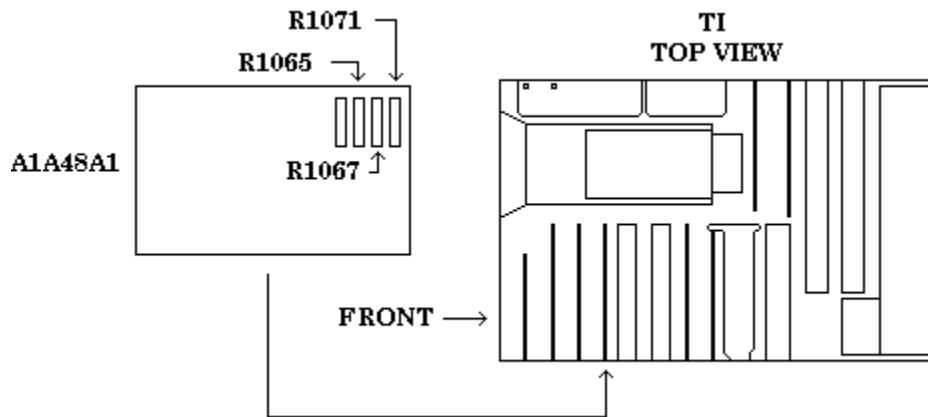
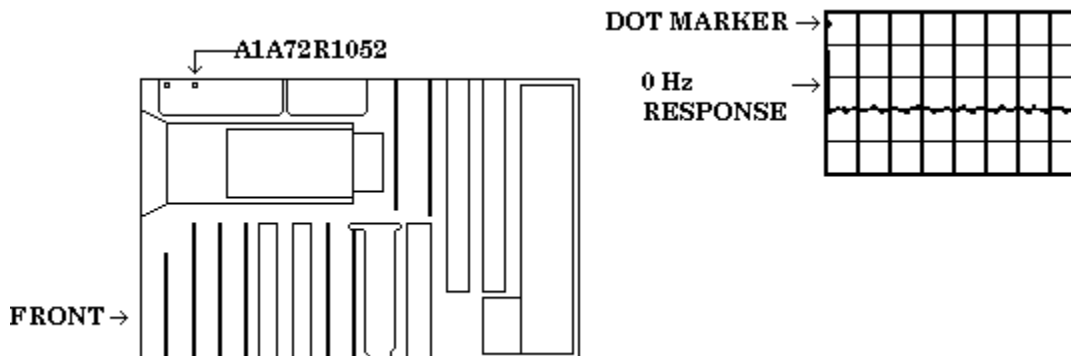

Figure 3. Span/div adjustment.
Figure 4. 0 Hz adjustment.
- (10) Set pulse generator for a 10 ns output at an amplitude of 2.00 V.
- (11) Use TI **CENTER/MARKER FREQUENCY** knob to align second marker from left to TI second vertical graticule line.
- (12) Adjust A1A48A1R1065 (fig. 3) for one marker per division over center eight divisions of CRT (R).
- (13) Reduce pulse generator output to minimum and disconnect from TI RF INPUT 50Ω.
(14) Connect oscilloscope calibrator **SOURCE/MEASURE CHAN 1** to **TI RF INPUT 50Ω**.
(15) Press TI keys as listed in (a) through (d) below:
(16) Set oscilloscope calibrator for a 200 ns **MARKER** output.
(17) Use TI **CENTER/MARKER FREQUENCY** knob to align second marker from left to TI second vertical graticule line.
(18) Adjust A1A48A1R1071 (fig. 3) for one marker per division over center eight divisions of CRT (R).
(19) Press TI keys as listed in (a) through (d) below:
(20) Use TI **CENTER/MARKER FREQUENCY** knob to align second marker from left to TI second vertical graticule line.
(21) Adjust A1A48A1R1067 (fig. 3) for one marker per division over center eight divisions of CRT (R).
(22) Set oscilloscope calibrator to standby.
(23) Press TI **BLUE SHIFT** then **RESET** keys.
(24) Disconnect oscilloscope calibrator **SOURCE/MEASURE CHAN 1** from **TI RF INPUT 50Ω**.
(25) Adjust A1A72R1052 (fig. 4) dot marker over 0 Hz response as shown in example waveform in fig. 4 (R).